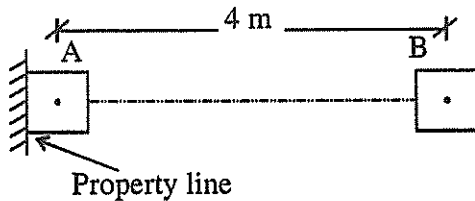

Fig. 1
3. A flat slab is resting over columns spaced 5 m centre-to-centre in both the directions. The columns have column head of size  $600 \times 600$  mm. The effective height of the column is 3.5 m. The slab is having finishing load of  $2 \text{ kN/m}^2$  and live load of  $4 \text{ kN/m}^2$ . Design end panel of the flat slab. The columns end at the slab level. (20)
4. Two columns A and B as shown in Fig. 1 carry compressive load of 400 kN and 600 kN respectively. The column A is on property line and column B is at 4 m centre-to-centre distance from A. Both the columns are of size  $350 \text{ mm} \times 350 \text{ mm}$ . Design a strap footing. Take net bearing capacity of soil as  $100 \text{ kN/m}^2$ . (20)